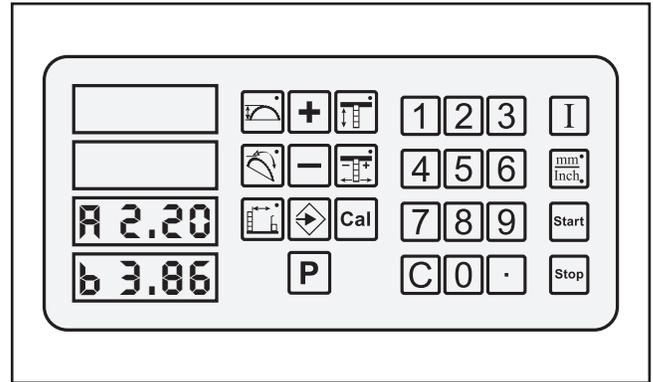

Figure 29. Rip fence calibration mode.
2. Push and hold the blade width  and CAL  keys, then turn **ON** the control panel. The display will show A and B dimensions, as shown in **Figure 29**.